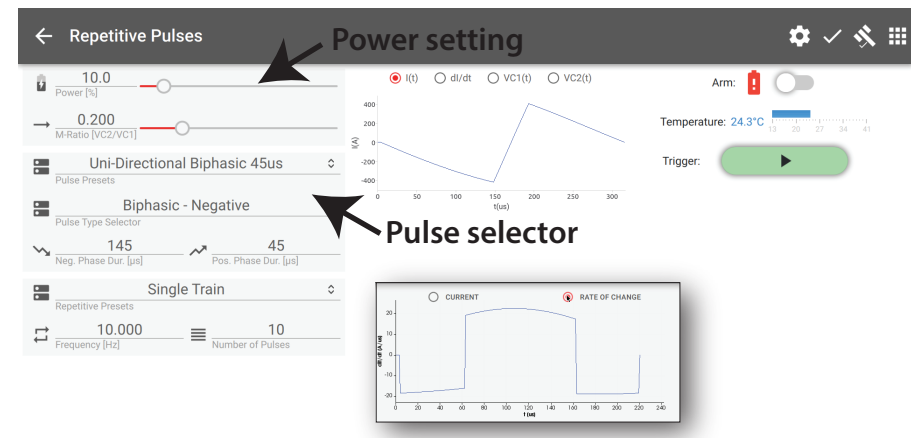
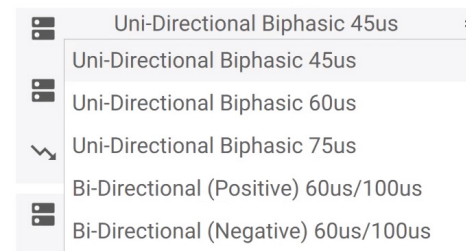

Fig. 4-1: Repetitive pulse selection screen. Note the ability to switch the pulse shape display from current to rate of change (inset).
Fig. 4-2: Default pulse list.
- From the system main menu, tap Run Repetitive Pulses to move to the rTMS screen (Fig. 4-1). Tap on the pulse selector to open the list of available pulses (Fig. 4-2) and select the desired pulse.